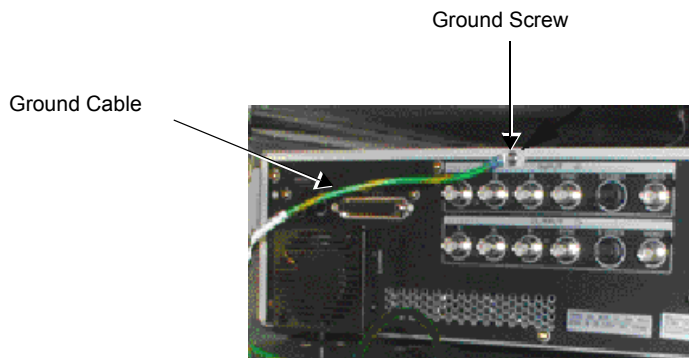

Figure 8-157 Color Video Printer Ground Cable Connection
- 17.) Connect the Ground cable (hanging out of the Bottom Metal Cover) to the Ground screw at the rear of the Color Video Printer, as shown in Figure 8-157 below